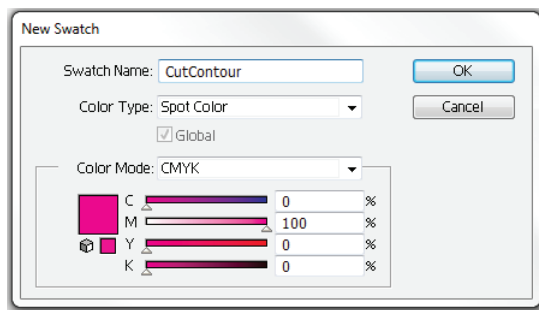
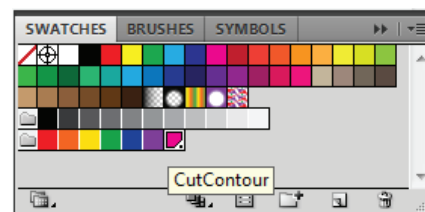

Figure 3
Figure 4
5. Use the slider bars to create a CMYK color (Figure 3). Because the color will not be printed, we recommend you make the color easily identifiable in your image to ensure it is recognized in the RIP-Queue (Figure 4).